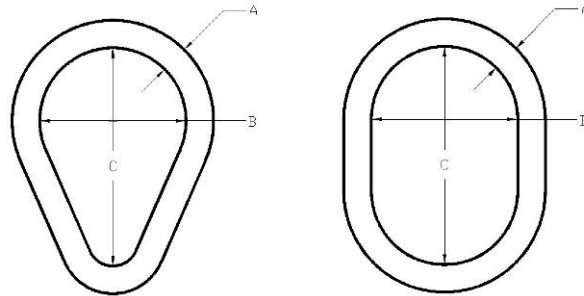

Figure 12. Dimension for Pear Link and Oblong Link.
- Check dimensions for deformations (see figure 12.)